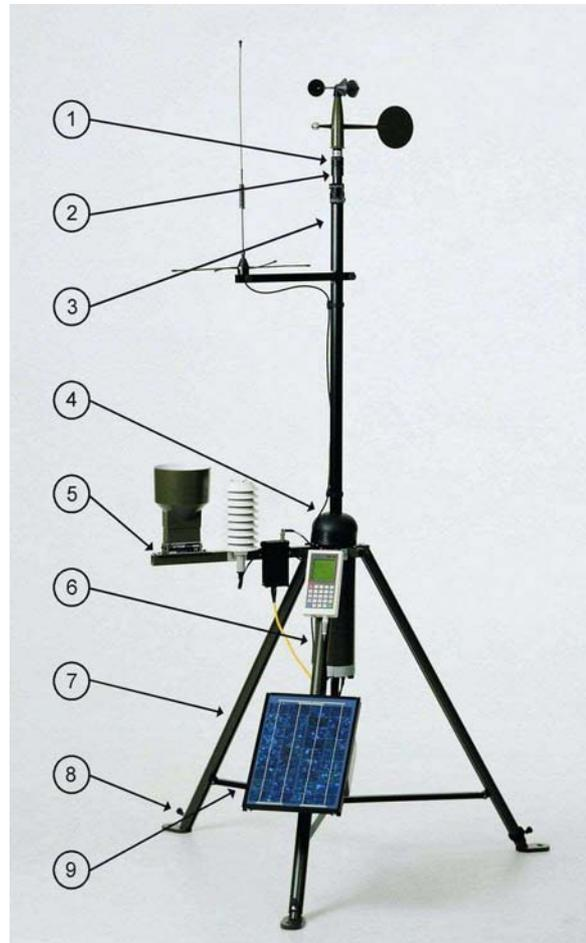
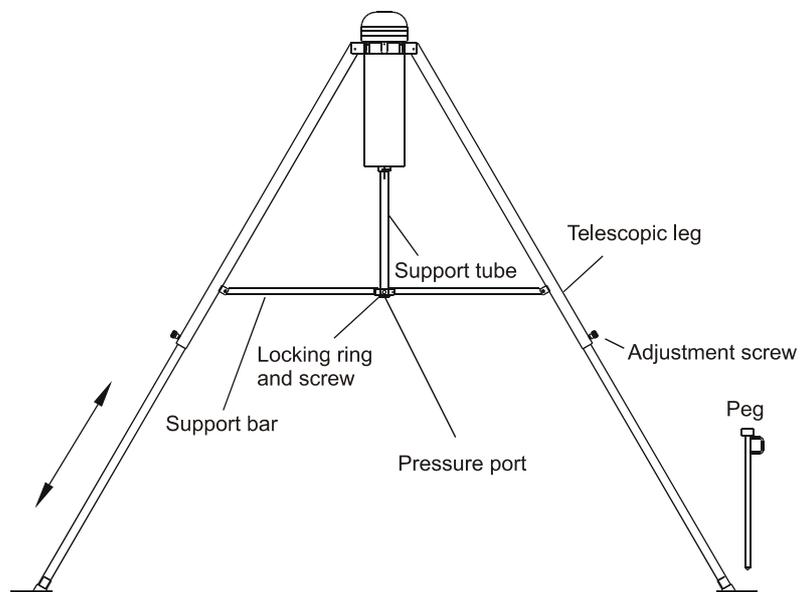

Figure 33 Mechanical Structure of Basic System
Figure 34 Mechanical Structure of Tripod Legs
The following numbers refer to Figure 33 on page 46:
When installing the sensors to the tripod, see Figure 33 on page 46 for correct places for the sensors.
1. Place the tripod in an upright position. Loosen the locking ring, spread the legs and push the locking ring all the way to the stop. Lock by tightening the screw. The support bars should be horizontal. Point the solar panel leg towards south in the northern hemisphere (north in the southern hemisphere). See Figure 33 on page 46 and Figure 34 on page 47 for the component names.